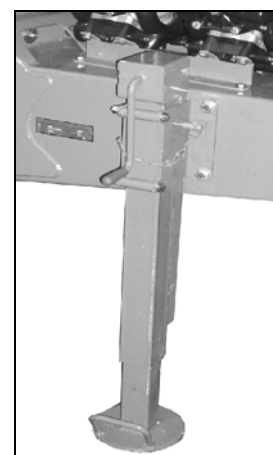

Fig. 53
- Stand lowered (Fig. 53) when machine is uncoupled.